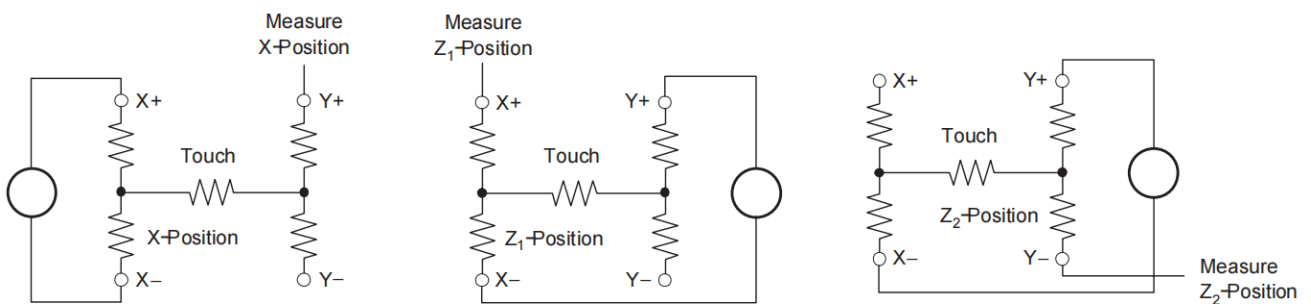

Figure 8 Pressure Measurement Block Diagrams
Measuring touch pressure can also be done with the HT2046. To determine pen or finger touch, the pressure of the touch needs to be determined. Generally, it is not necessary to have very high performance for this test; therefore, the 8-bit resolution mode is recommended (however, calculations will be shown here in the 12-bit resolution mode). There are several different ways of performing this measurement. The HT2046 supports two methods. The first method requires knowing the X-plate resistance, measurement of the X-Position, and two additional cross panel measurements (Z_1 and Z_2) of the touch screen, as shown in Figure 8. Using Equation (3) calculates the touch resistance: